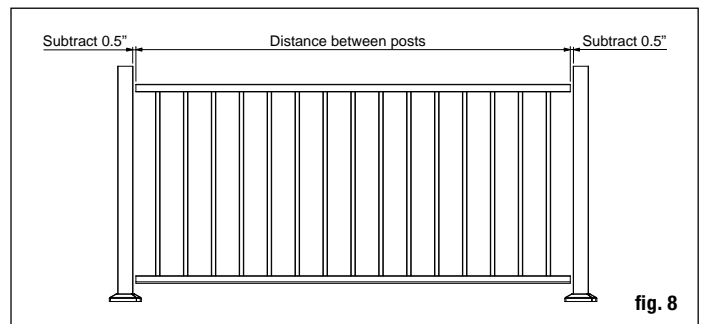

fig. 8
**Step 6** Measure the distance between installed posts to determine the length of the top rail. The rails are sized for 6' and 8' on-center posts, when using 2.5" posts, and include space for the brackets. Position rail adjacent to installed posts. The distance between the post and the spacer should be equal on both ends. Use one spacer for 6' rails and two for 8'. Never span more than 36" without a spacer to maintain proper cable spacing. As needed, trim the top rail to length for runs that are less than 6' or 8' on-center. Mark the length on top rail, and remove an additional 1/2" from both ends (1" overall) for the bracket to fit between the rail and post (fig. 8).